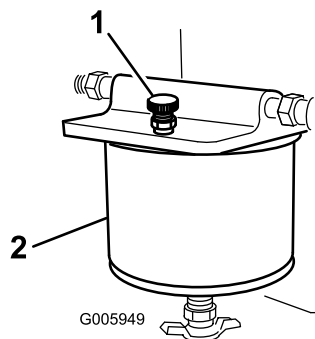

Figure 34
5. Open the bleed screw on top of the fuel filter to fill the bowl with fuel (Figure 34).